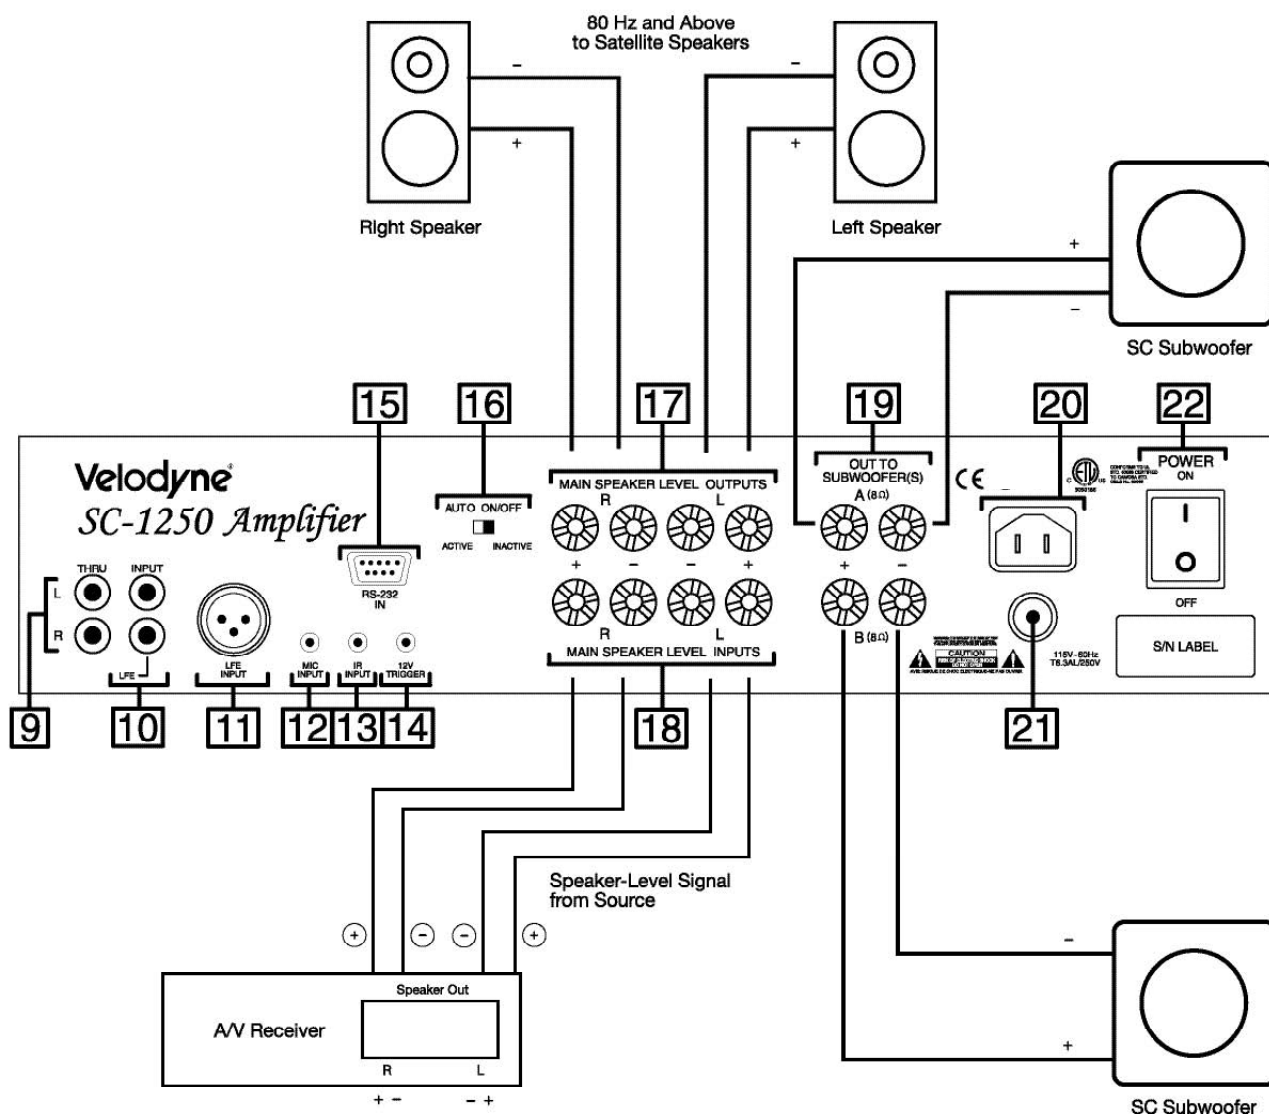

Figure 5: Speaker-Level Connection.
(17) Speaker Level Output Terminals *(See Figure 5)*
(18) Speaker Level Input Terminals *(See Figure 5)*